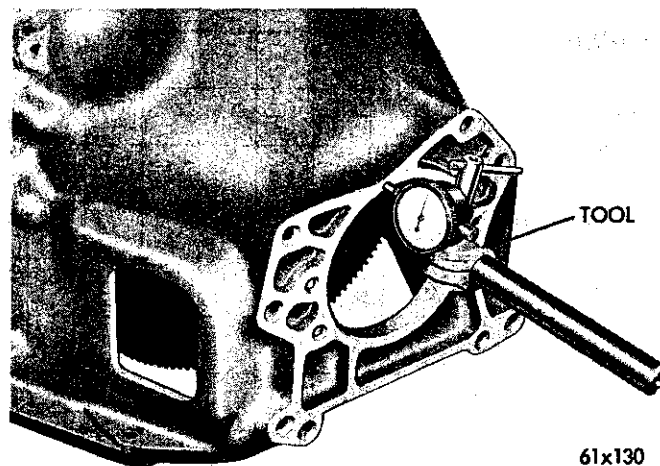

Fig. 9—Measuring Clutch Housing Alignment
(1) Relocate the dial indicator, as shown in Figure 9. Rotate the flywheel, using Tool C-771. If the total indicator reading is greater than .003 note the amount of the total indicator reading and the location of the lowest indicator reading (i.e., the point where the indicator arm or follower is extended the furthest).
(2) To correct the excessive runout, place the proper thickness of shim stock between the clutch housing and the engine block or between the transmission and the clutch housing. After measuring the face runout, tighten the housing bolts to 50 foot-pounds torque. Install the clutch as follows: